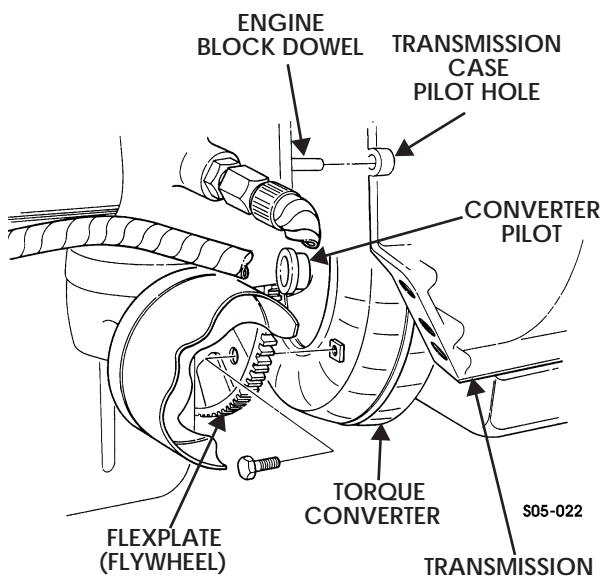

Figure 5-64: Converter Pilot
7. Align holes and secure torque converter to flexplate (fly-wheel) with six capscrews. Tighten capscrews to 32 lb-ft (43 N•m) (Figure 5-64).